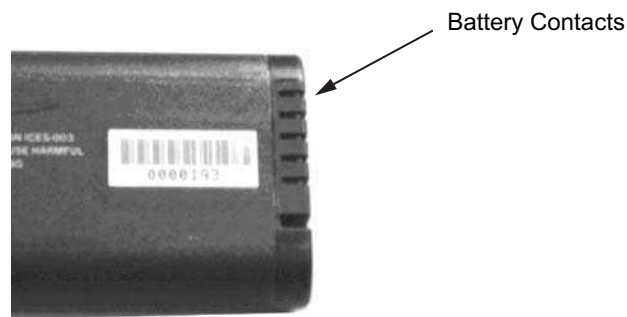

Figure 6-4. Battery Contacts
5. Replacement is the opposite of removal. Note the orientation of the battery contacts, and be sure to insert the new battery with the contacts facing the front of the unit, as illustrated in Figure 6-4.